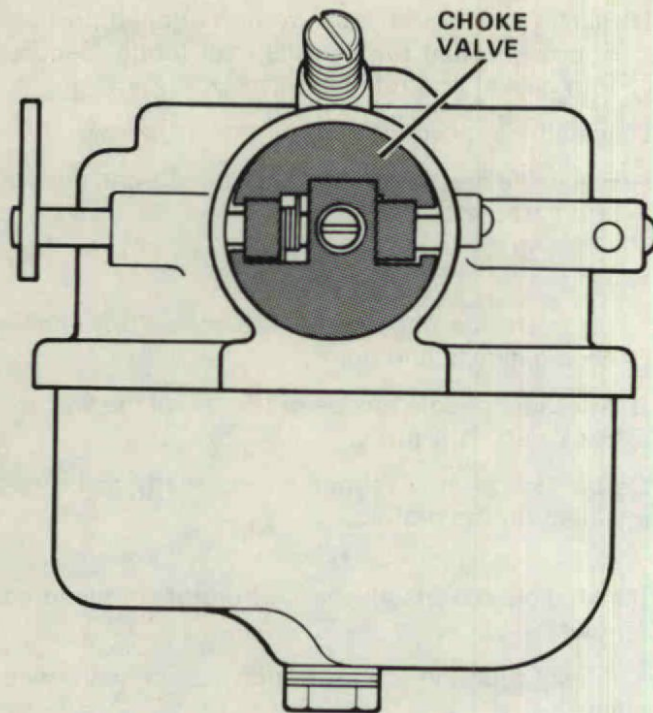

Figure 26. Position of Choke Valve.
- A. Note position of choke valve. Figure 26.